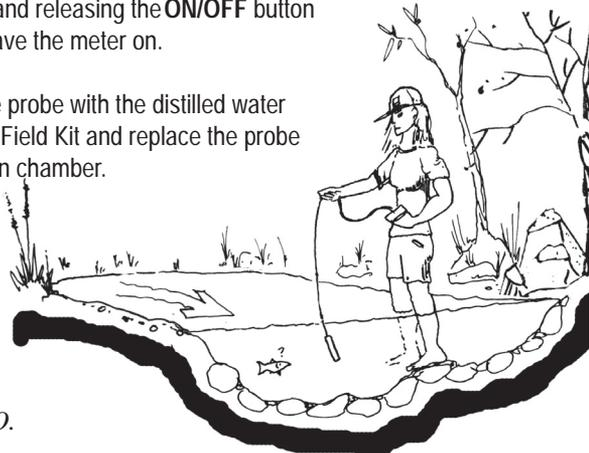

Figure 3-11:
2. Lower the probe in the water halfway between the surface and the bottom of the water you are sampling (at least 3.5 inches below the surface water). **Do not let the probe hit the bottom** (Figure 3-11).